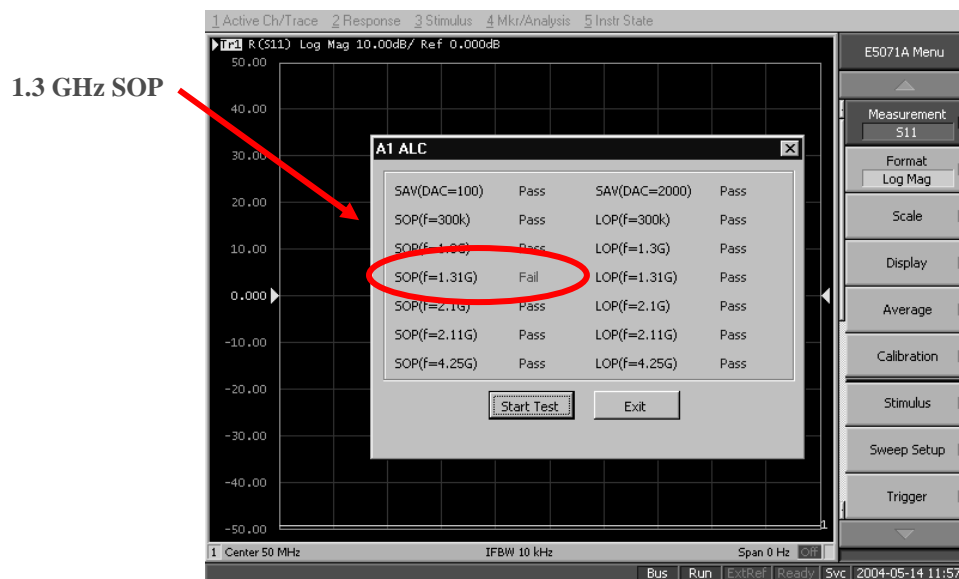

Figure 2. A1 ALC in Internal test has failure at SOP (f=1.3G) or LOP (f=1.3G)
- Internal test of A1 ALC shows fail at SOP (f=1.3G) or LOP (f=1.3G) as Figure 2.